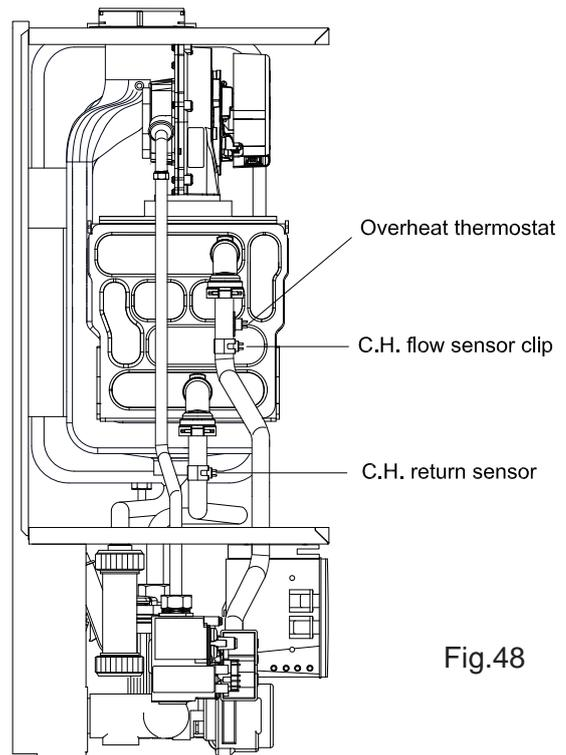

Fig.48
8.15 TO REMOVE/REPLACE C.H. FLOW AND RETURN SENSORS (Fig. 48)